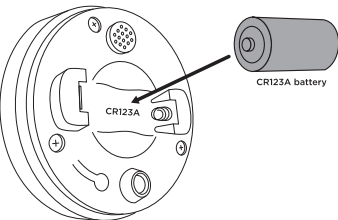

FIGURE 7
3. Ensure battery is installed with the correct polarity and the battery tab has been removed (see figure 7).